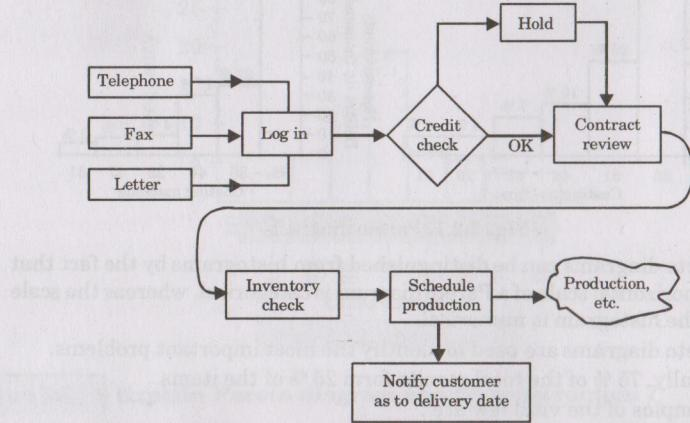

Fig. 3.3.1. Flow diagram for an order entry activity.
- Fig. 3.3.1 shows a flow diagram for the order entry activity of a make to order company that manufactures gasoline filling station hose nozzles.